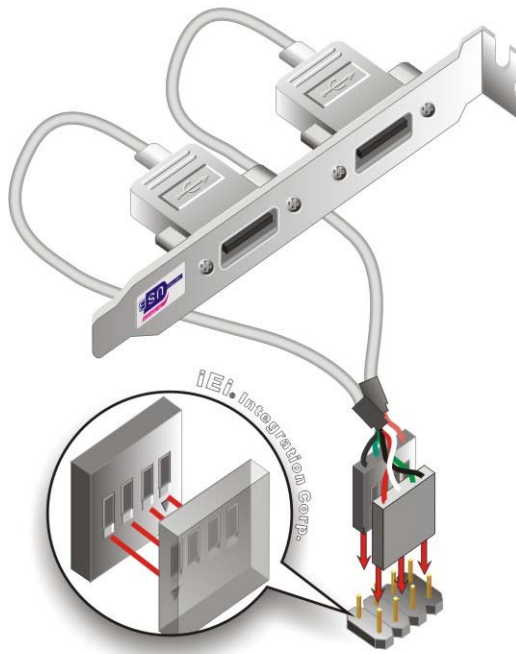

Figure 4-9: Dual USB Cable Connection
Step 3: Insert the cable connectors. Once the cable connectors are properly aligned with the USB connectors on the KINO-DBT, connect the cable connectors to the on-board connectors. See Figure 4-9.